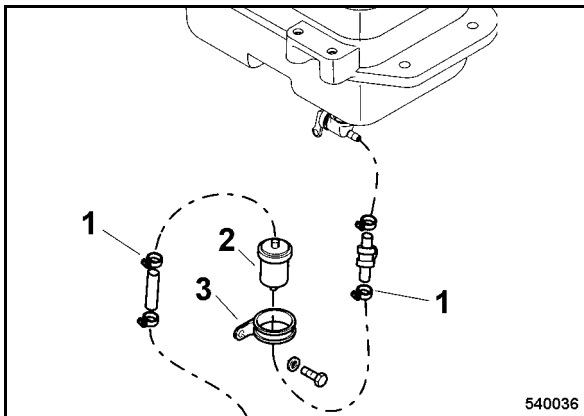

Fig. 53
- Loosen hose clamp (1) (Fig. 53) on the fuel filter and pull off the fuel hoses.
- Loosen the clamping screws (3) and take off the fuel filter (2).